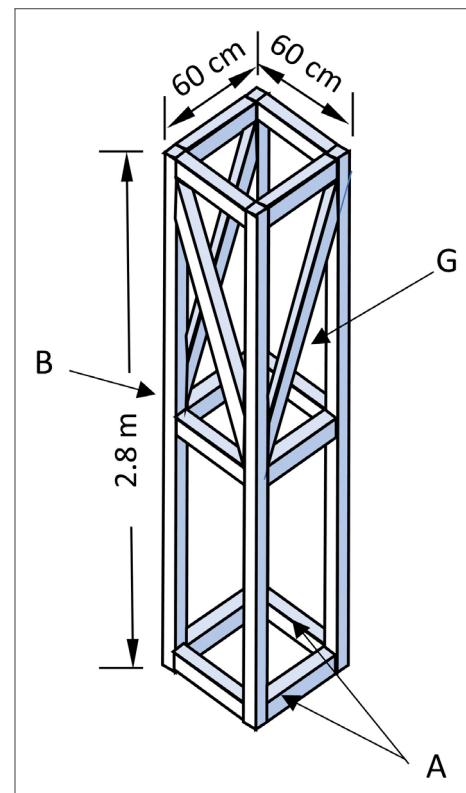

Figure 3. Wood frame for chimney
- The chimney is made from four planks of wood (shown in Fig. 3 as B).
- Make sure that the chimney is tall enough so that it rises 2 m (200 cm) above the top of the drying table (Fig. 3). For instance, if your drying table is 80 cm tall, then your chimney height should be 2.8 m (280 cm) tall.